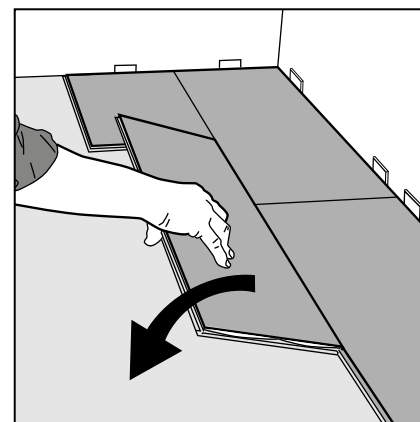

Figure 17 Second plank, second row
- ▶ Gently place the panel close to the short end of the previous one (Fig 17) and fold it down in a single action movement ensuring the corner of the long and short sides connect into the corresponding profiles of the short edge of the first panel second row, and the long edge lower profile of the corresponding panel in the previous row respectively.